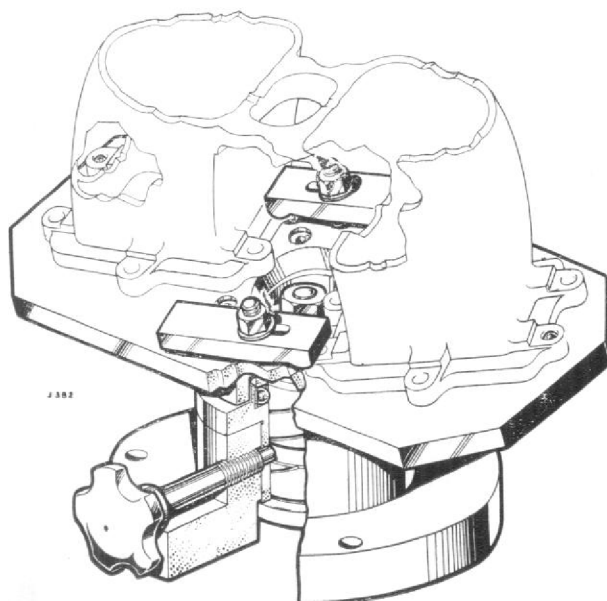

Fig. 1. Combustion chamber turntable fixture T.72531.
4. Install the combustion chamber on turntable fixture T.72531, Fig. 1.